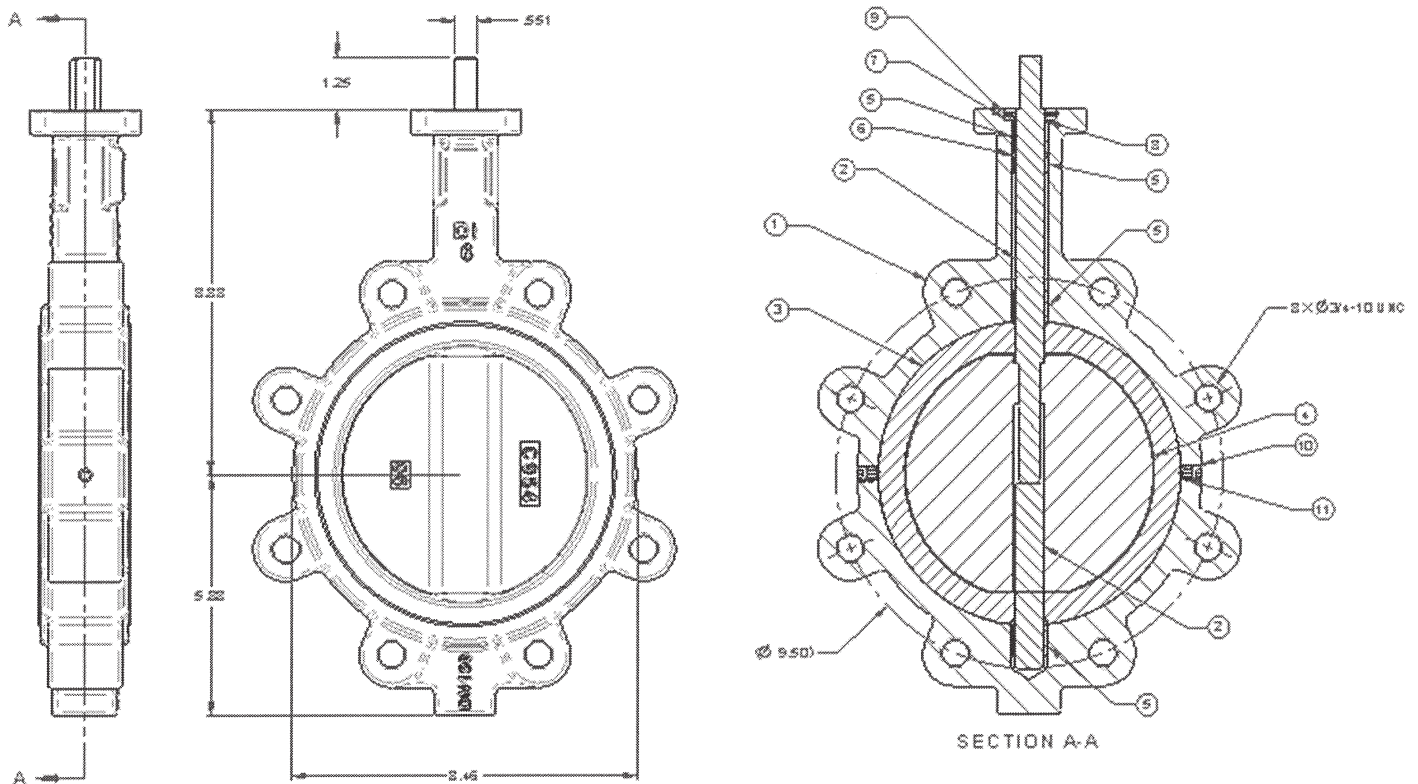

Figure 5: Assembly View: 3" Butterfly Valve Shown
- Step 1. First, start by loosely assembling the notch plate on the valve top plate. The notch plate should be installed with the notches in the third quadrant of the valve top plate with the stop tabs at the 6 o'clock and 9 o'clock position. The notch plate should be installed with the stop tabs pointing upward (Figure 5).